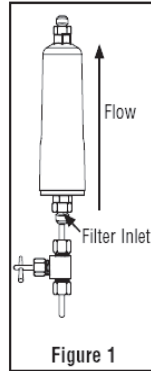

Figure 1
2. Locate an easily accessible section of tubing. Shut-off valve (not included) must be on inlet side of filter. (Figure 1)